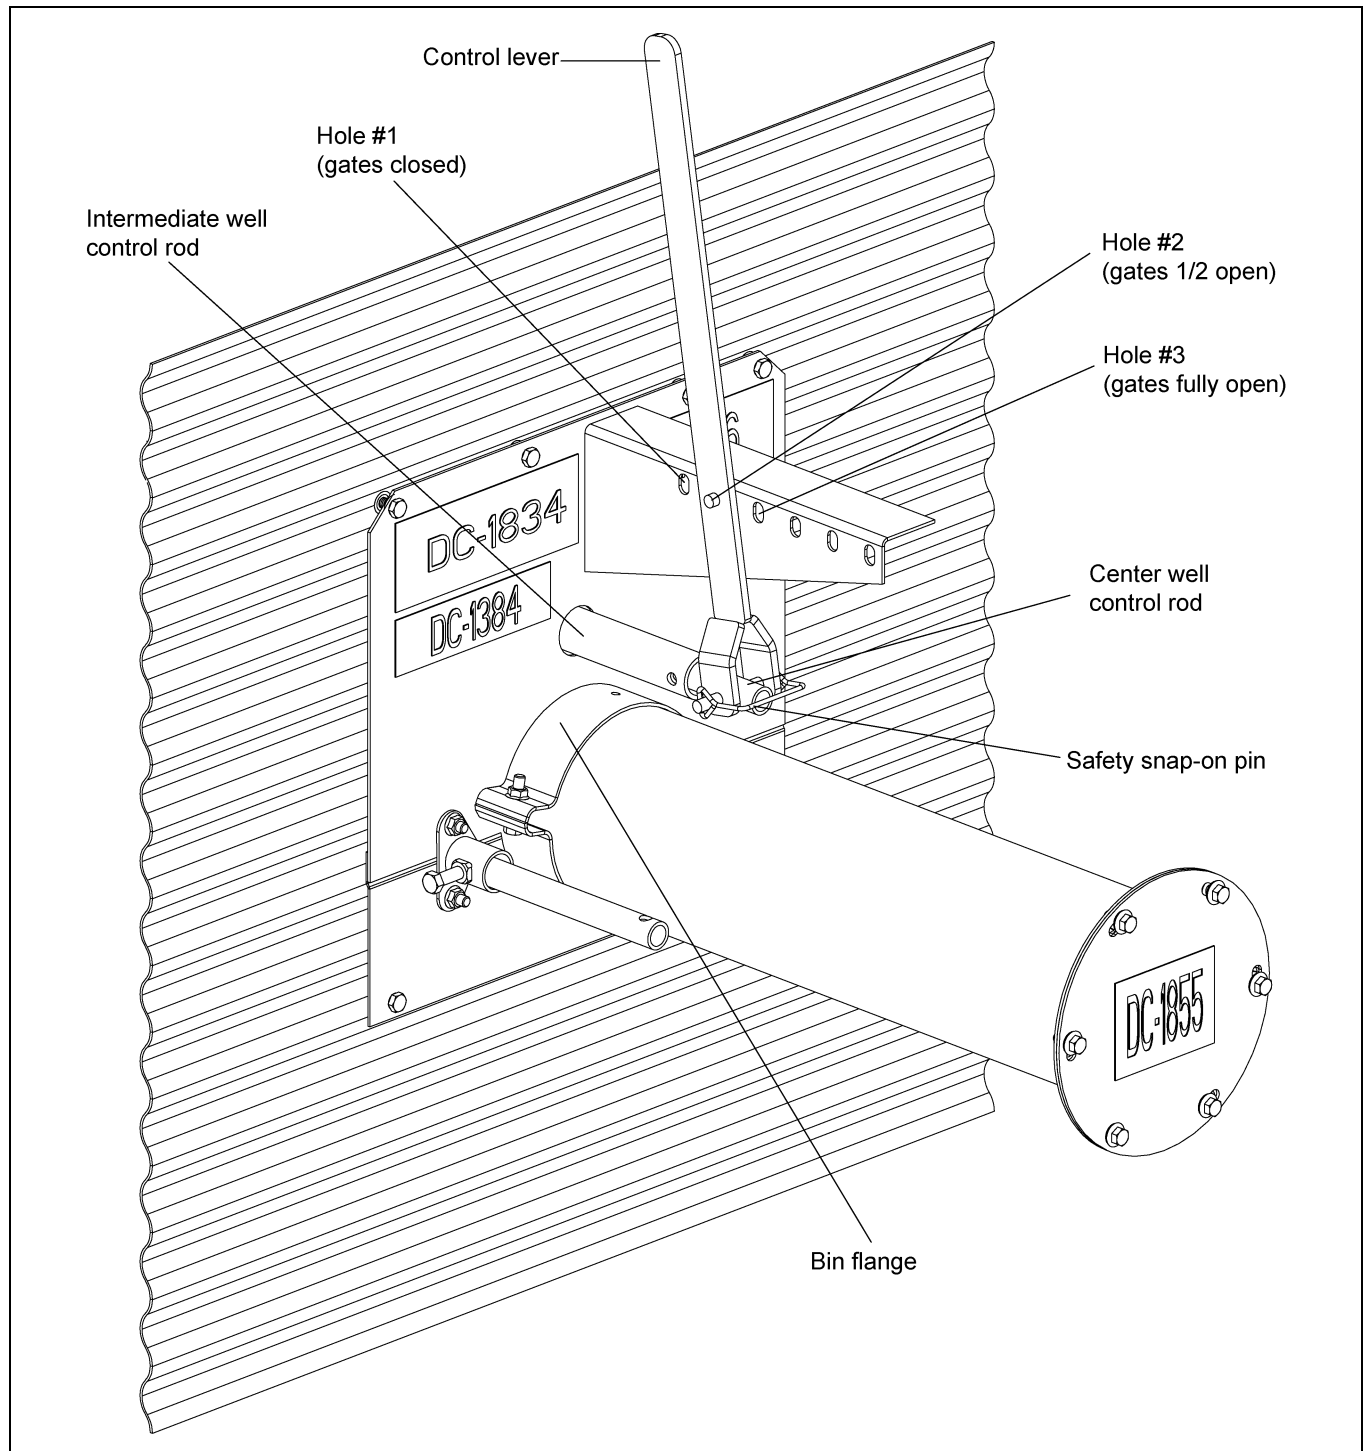

Figure 40 6" Systems
3. Place the safety snap-on pin through the center well control rod and the control lever as shown in Figure 40.